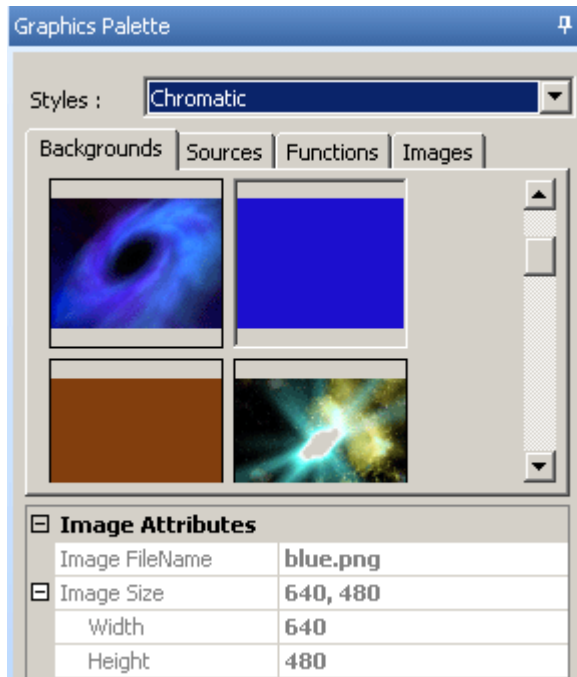

Figure 21 – Selecting Background Style
2. In the **Graphics Palette**, select the **Backgrounds Tab**. The **Background options** for a given *style* will be displayed in the **Graphics Palette**, with the **Image Attributes** of a selected **Background** indicated directly below. (Figure 21)